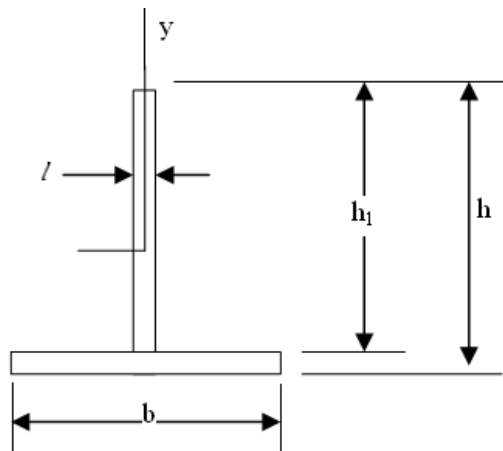

Figure 8b
8. a. A Rectangular beam is simply supported at the end and carries a point load at the center . Establish the relation between maximum bending stress and maximum shear stress (8)
b. The T-beam shown in the figure 8b has cross- sectional dimentions : $b= 220 \text{ mm}$, $l= 15 \text{ mm}$, $h = 300\text{mm}$, and $h_1 = 275\text{mm}$. the beam is subjected to a shear force $V = 60 \text{ kN}$. Determine the maximum shear stress in the web of the beam. (8)